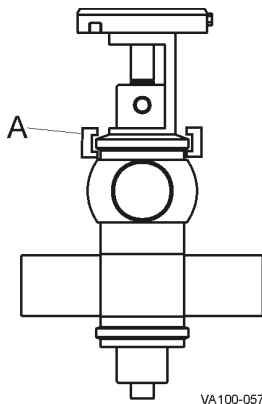

Figure 14 - Location of Adapter Clamp
5. Remove the clamp between the yoke and adapter (Figure 14, item A).